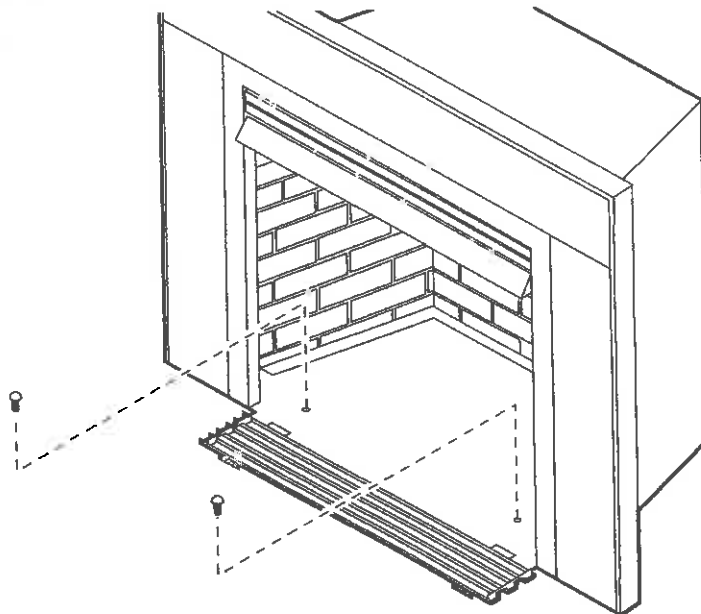

FIGURE 11. Securing Heater to Floor or Hearth
- Secure the firebox with two anchoring screws (3/16" x 1 1/4" length) supplied with the fireplace system (see FIGURE 11).